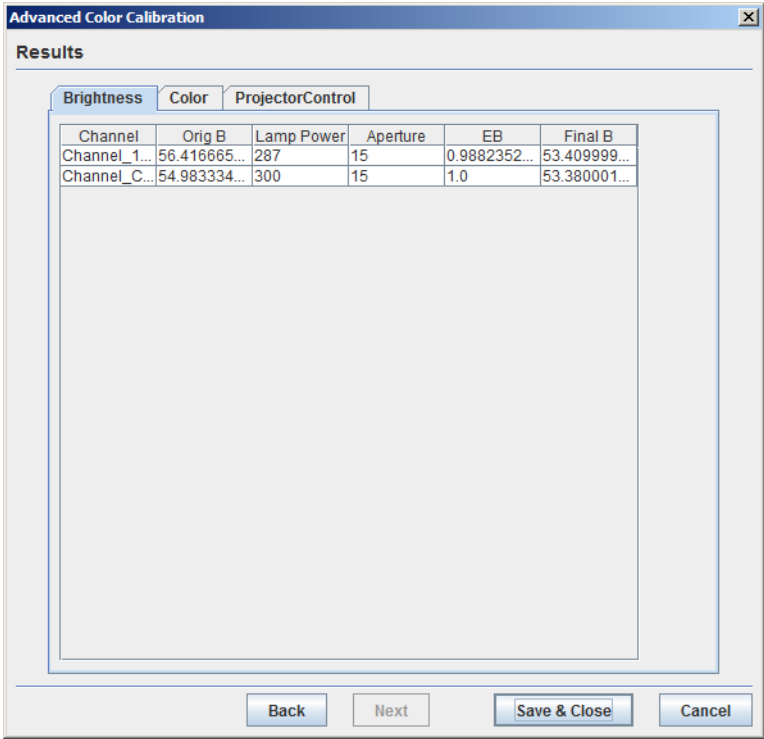

Figure 4-39 Advanced Color Calibration - Results - Brightness
13. If you are satisfied with the calibration results, click **Save & Close**. The wizard window closes. If you want to view detailed information about the calibration results, click **Next**. The results window appears, showing the Brightness tab (**Figure 4-39**).